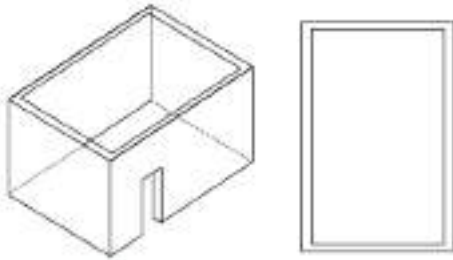

FIGURE F1—OUTDOOR AREA—EXAMPLE 1
(1) Any enclosure with walls on all sides, but at least one permanent opening at ground level, and no overhead cover. See figure F1.